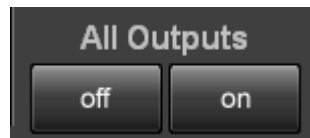

Figure 4.4-1 All Outputs Button
1. Click **on** at **All Outputs** shown in Figure 4.4-1.
1. Click **off** at **All Outputs** shown in Figure 4.4-1.